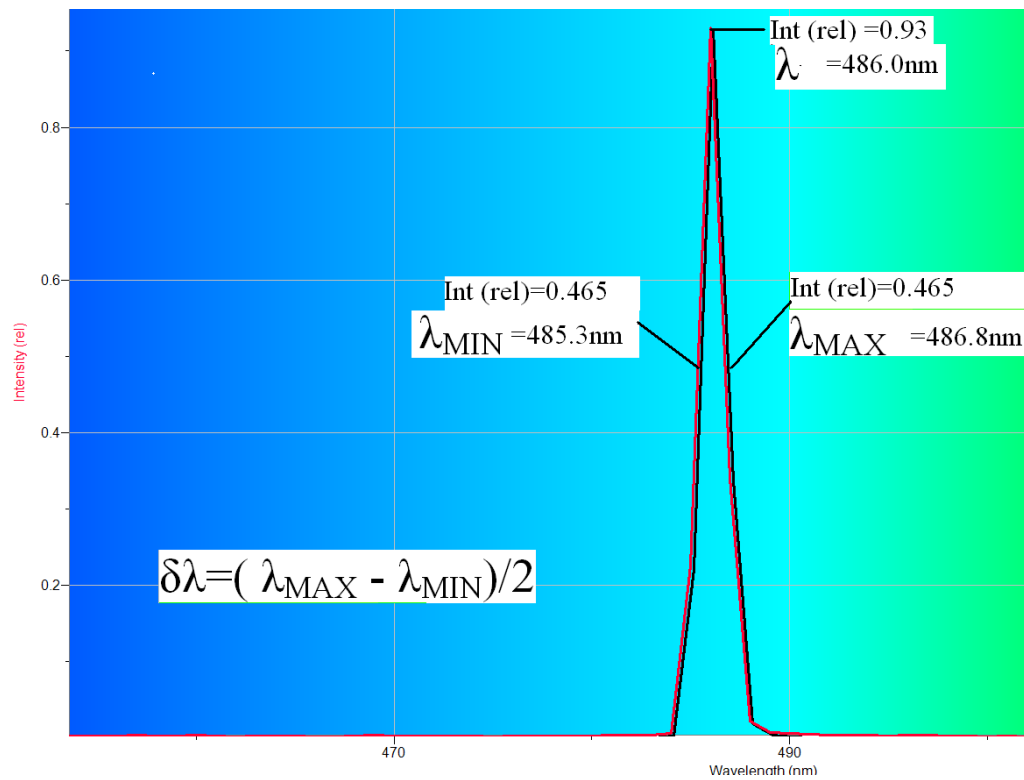

Figure 9.6: Example of how to label the graph of the laser emission spectra to find the HWHM.
6. For the laser and both gas discharge tubes, **find the wavelength of the highest peak** (the most intense light) and its uncertainty. To find the uncertainty, use the “half width at half maximum” (HWHM) of the peak. To assist you, label these points as seen in Fig. 9.6.